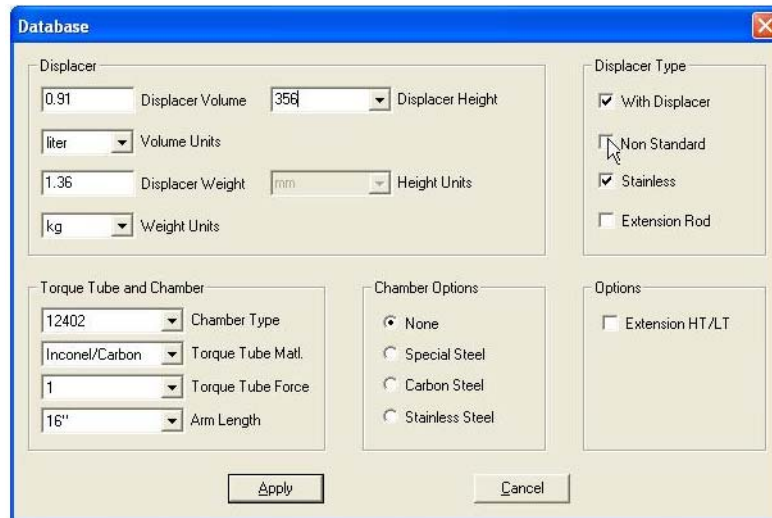

Figure 197 De-selecting Displacer Type Checkbox
- Select or de-select the appropriate checkboxes (Figure 197).